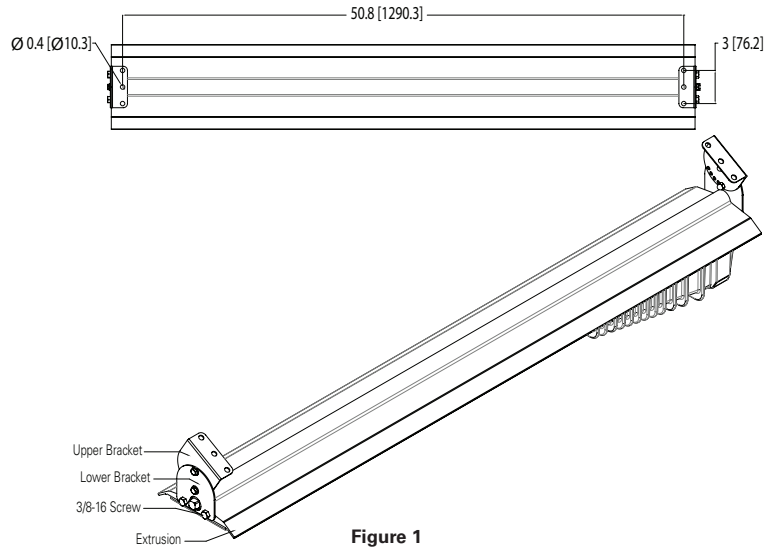

Figure 1
2. Measure and mark four (4) holes to wall or ceiling for bolts at center-to-center measurement (see Figure 1). Mount upper bracket to the ceiling with sufficient strength to support the luminaire.
3. Install the lower brackets to the luminaire with the hardware provided. Install the lower bracket using two (2) hex head 3/8-16 x 1/2" screws. Torque the 3/8-16 screws to 20 ft.-lbs. (27 N-m).
4. Use two (2) ¼-20 screw and cap nut to assemble lower and upper brackets together in straight or angular orientation. Torque ¼-20 screw and cap nut to 75 in.-lbs. (8.5 N-m). Luminaire is now ready for mounting.